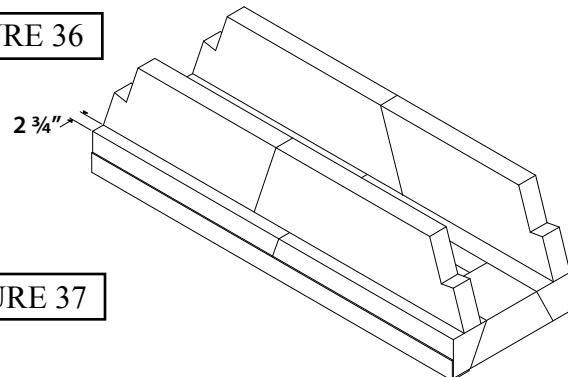

FIGURE 37
**Step 14:** Repeat STEP 13 on the front damper support. Set the front smoke dome components 2-3/4" back from the front face of the front damper support (Figure 37).